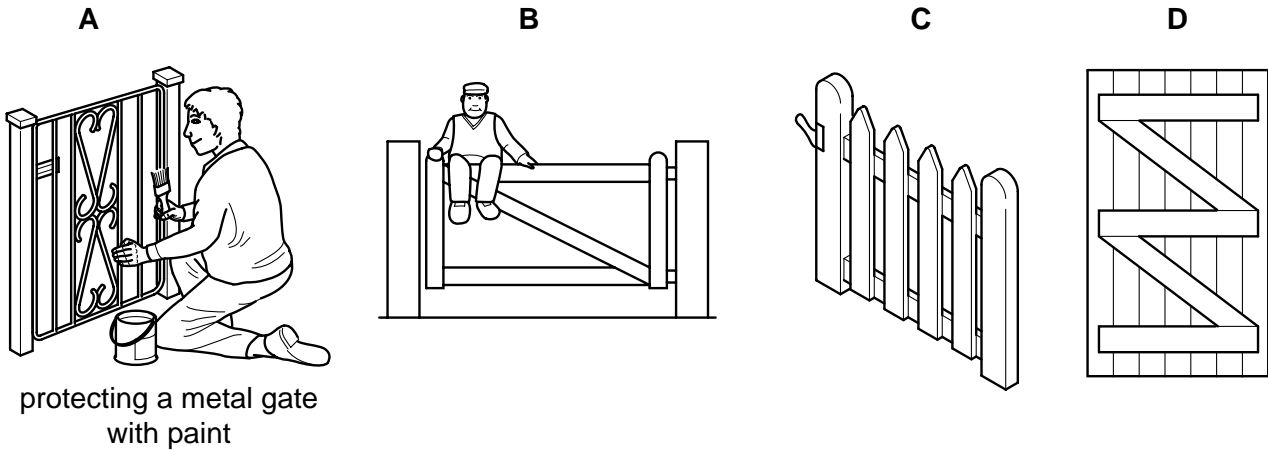

Fig. 8
- 9 Fig. 8 shows four types of gate that could be used at the entrance to a path at the front of a house.